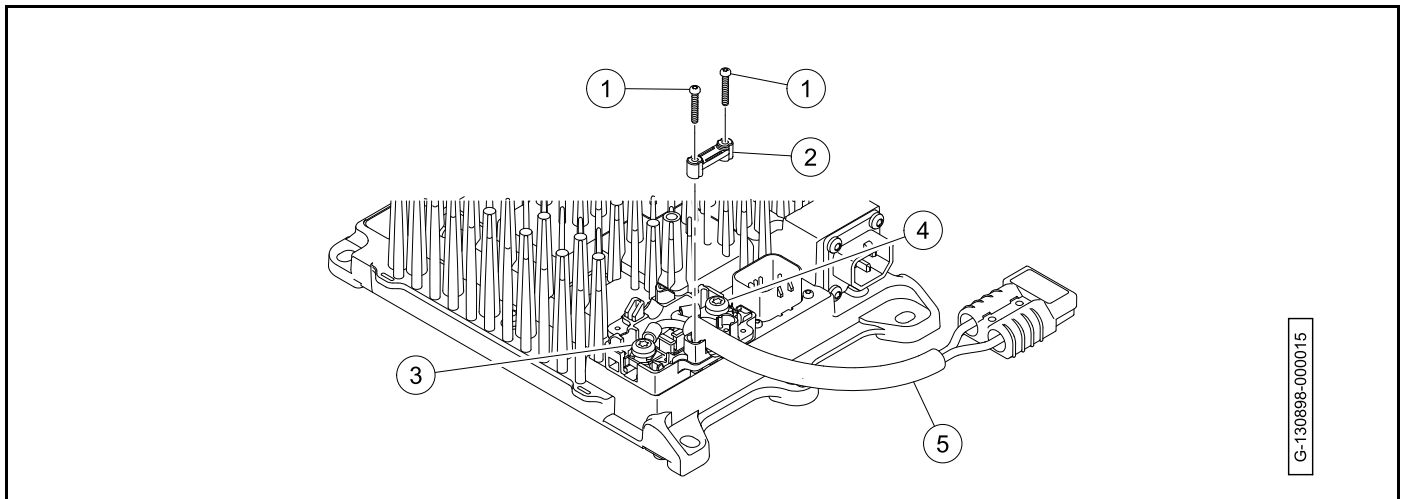

Figure 15-50 Onboard Charger DC Cord
6. Remove the screws (1) (**Figure 15-50, Page 15-53**).